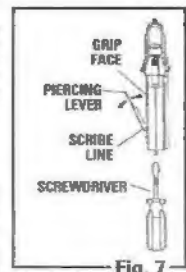

Fig. 7
- NOTE:** The piercing mechanism has been preset at the factory but may require resetting from time to time to accommodate for normal wear in the mechanism or slight lot to lot manufacturing variations in CO2 cartridge lengths. If the scribed mark on the piercing lever is not aligned with the grip face as shown in Fig. 7, you will need to reset the piercing mechanism before closing the piercing lever.
- Resetting Piercing Mechanism:** Use a screwdriver to turn the piercing adjustment screw in order to align the scribed mark on the piercing lever with the grip face. (Fig. 7) The CO2 cartridge is now ready for piercing.